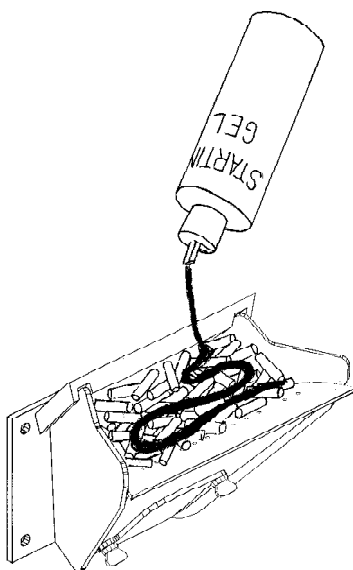

Fig. 58
10. Apply starting gel as shown in Fig. 58.